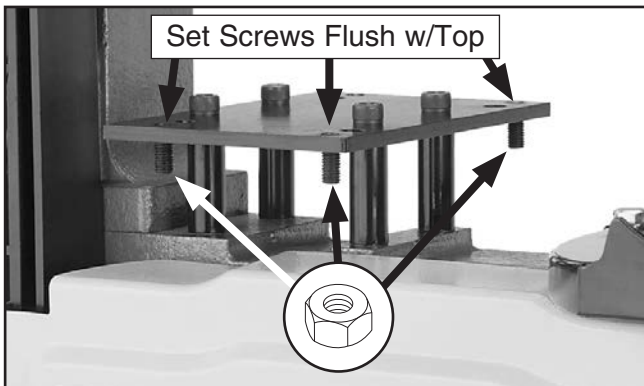

Figure 11. Set screws installed in lever board (3 of 4 shown).
- Thread four set screws into lever board from underneath until they are flush with top of lever board (see **Figure 11**), then thread M8-1.25 hex nuts up set screws and against lever board.